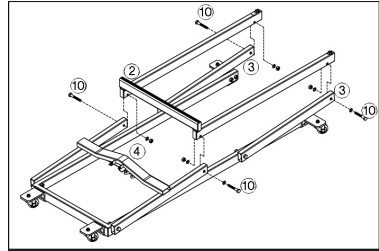

FIGURE 4.
15. Slide an M10 washer over each of four M10 x 65 bolts. Slide a bolt from the outside through each of the jack base's arms and through the support bar. Slide an M10 washer onto each bolt and secure with an M10 nut (Fig. 4).
16. Slide a bolt from the outside through each of the swing arms and through the support bar. Slide an M10 washer onto each bolt and secure with an M10 nut (Fig. 4).